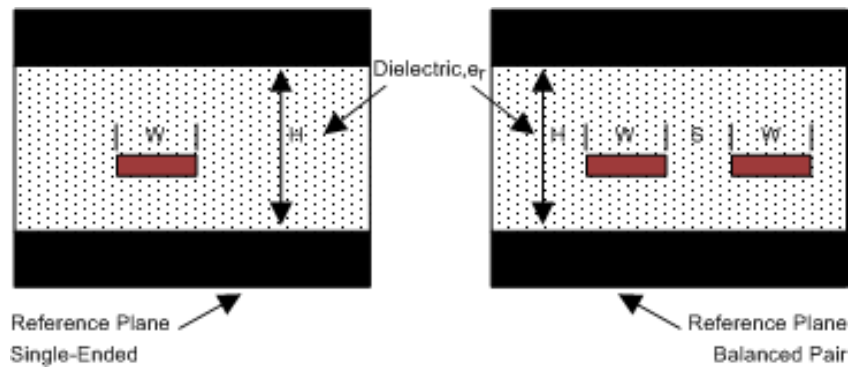

Figure 33. Stripline Topology
Striplines are traces between two ground planes (see Figure 33). Striplines are less prone to emissions and susceptibility problems because the reference planes effectively shield the embedded traces. However, from the standpoint of high-speed transmission, juxtaposing two planes creates additional capacitance. TI recommends routing M-LVDS signals on microstrip transmission lines if possible. The PCB traces allow designers to specify the necessary tolerances for  $Z_0$  based on the overall noise budget and reflection allowances. Footnotes 1, 2, and 3 provide the documentation for formulas for  $Z_0$  and  $t_{PD}$  for differential and single-ended traces. (1) (2) (3)